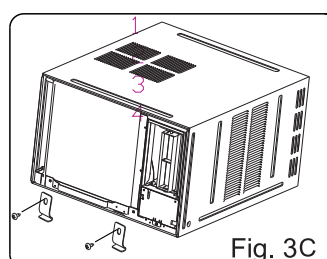

Fig. 3C
- Remove the two screws on the left and right chassis fixing brackets, then remove the two chassis fixing brackets as shown in Fig.3C.